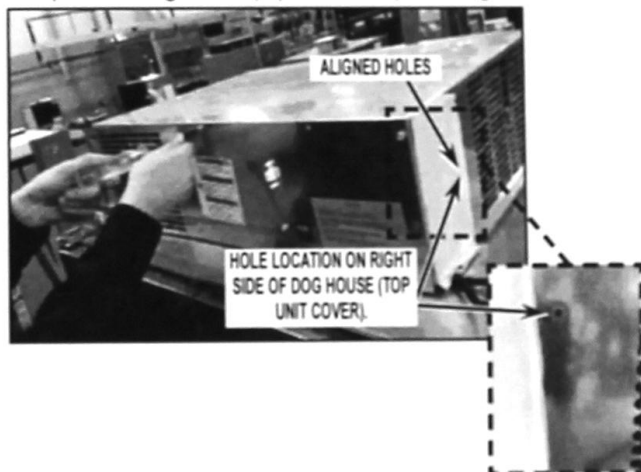

FIGURE 27
26. Reattach dog house (top unit cover). Make sure the screw on the right side of dog house (top unit cover) is aligned with the hole on the side of the HV box assembly. Attach front panel to dog house (top unit cover). See *Figure 27*.